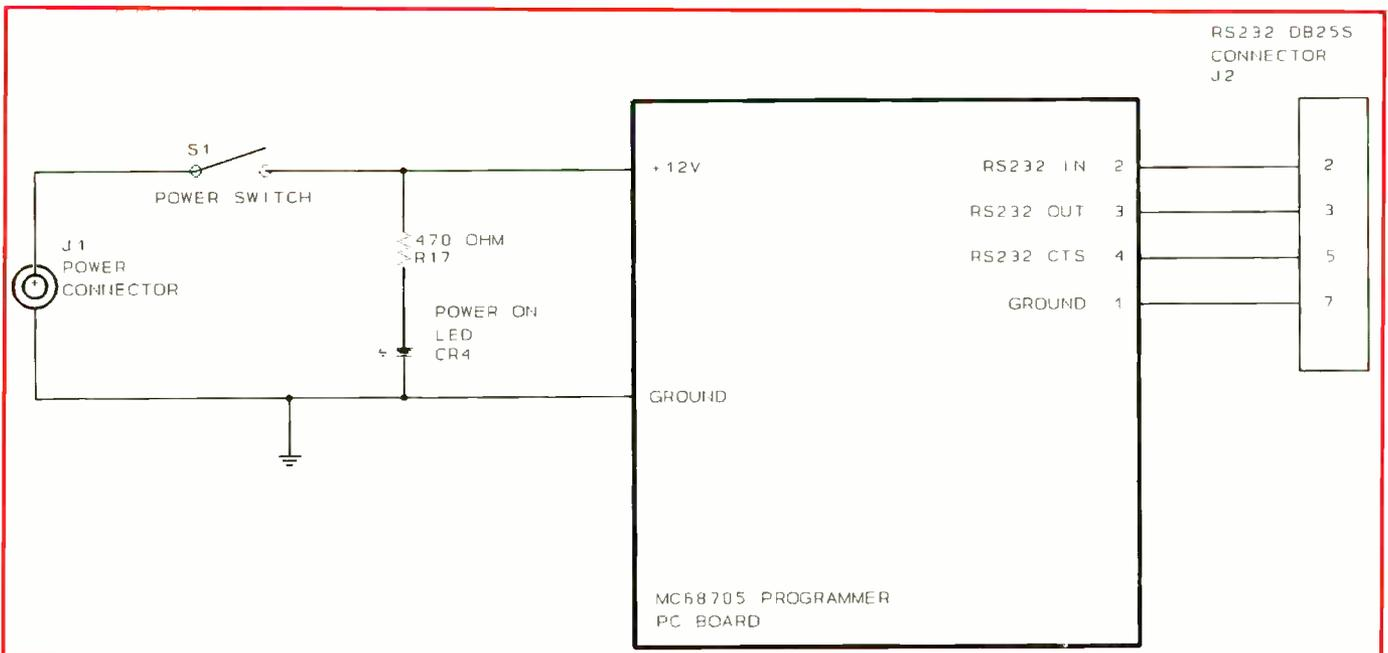

Fig. 5. Wiring details for power-switching/indicating and DB-25S connector circuits.
Connect a DB-25S connector to the board at J2, using about 12"-long stranded hookup wires. If you're using a standard modem cable to connect to your computer, use a DB-25S connector at the Programmer end. Wiring details for the connector are given Table 1 and illustrated in Fig. 5. Pin 1 on J2 in Fig. 1(C) is shown as a square pad.
Locate the power switch, power indicator LED and power connector on the enclosure in which the Programmer is housed. Refer to Fig. 5 for details on how to wire the power circuit to the board.